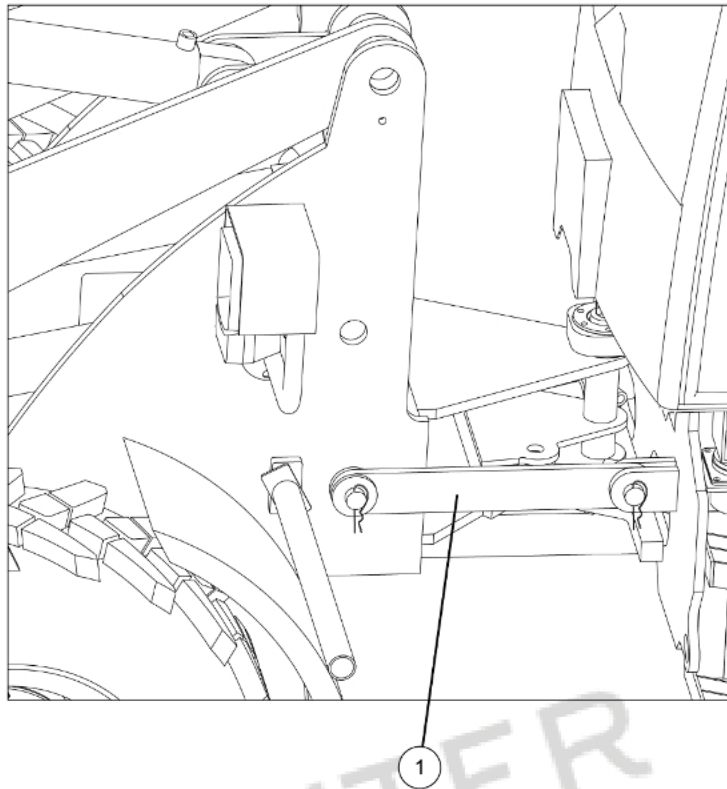
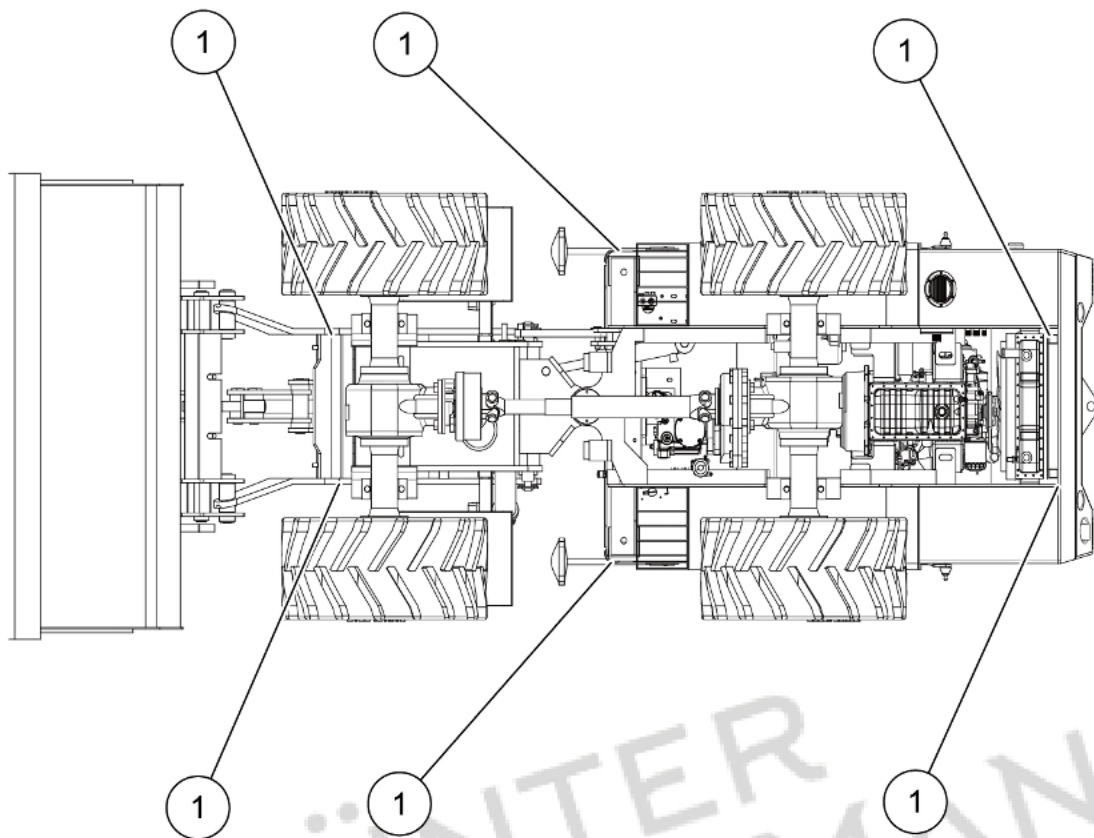

Figure 3-9 Locking frame
Figure 3-10 Layout of lifting points
- 7) After loading, use frame lock plate (1) to lock front and rear frames, as shown in Figure 3-9. Fix the tire of loader with stop, and tie loader rope tightly through the specified lifting lugs. The position of lifting lugs is shown in Figure 3-10.
When lifting the loader, the specified lifting points on the front and rear frames should be used for lifting. The lifting points of the loader are shown in Figure 3-10.